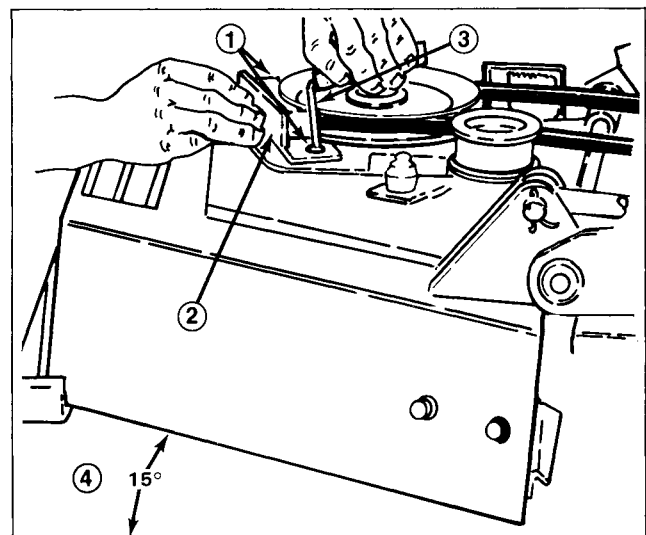

Figure 32
1. Raise wing to be adjusted 15 degrees (use a magnetically mounted compass) and loosen brake pad capscrews with Allen wrench (Fig. 32). Push brake pad against pulley with one hand and tighten capscrews with the other hand.